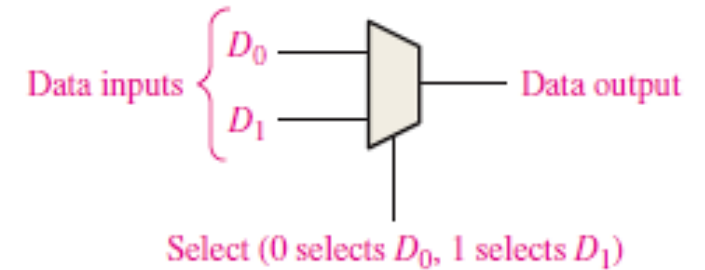

FIGURE 5 Commonly used symbol for a multiplexer. It can have any number of inputs.
- Logic diagrams often use the symbol shown in Figure 5 to represent a multiplexer. In this case, the multiplexer has two data inputs and a select input that provides for programmable selection; the select input is usually not shown on a logic diagram.